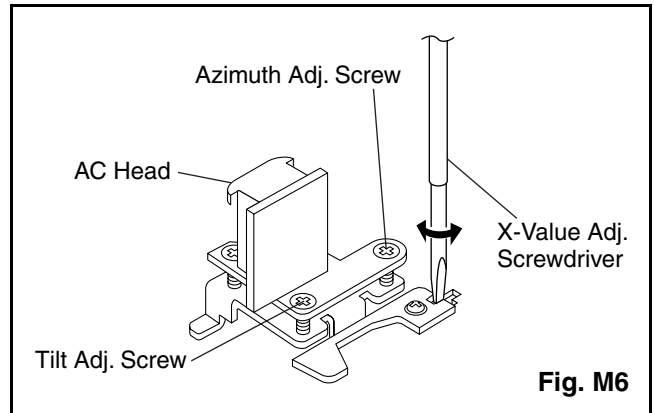

Fig. M6
4. If creasing or snaking is apparent, adjust the Tilt Adj. Screw of the AC Head. (Fig. M6)
4. Use the X-Value Adj. Screwdriver so that the PB FM signal at TP004 (CPB) is maximum. (Fig. M6)
3. Adjust Azimuth Adj. Screw so that the output level on the AC Voltmeter or the waveform on the oscilloscope is at maximum. (Fig. M6)